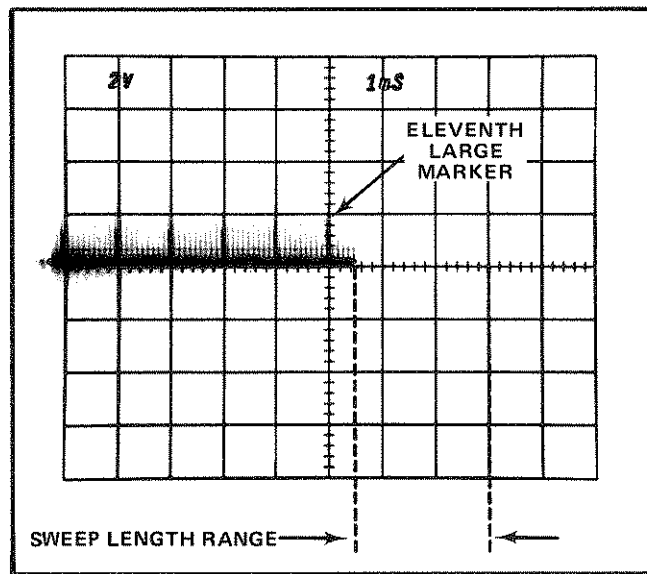

Fig. 5-15. CRT display when checking sweep length.
- b. Move the eleventh 1 ms marker to the center vertical line with the horizontal POSITION control. See Fig. 5-15.